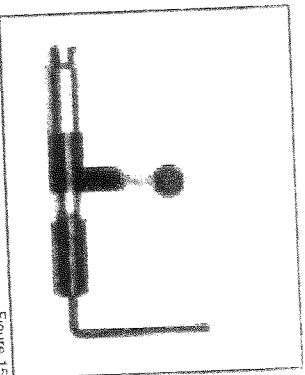

Figure 15
7. Place the bolt cap back over the spring. While pressing the spring downward, screw the bolt cap on to the bolt body. (See Figure 15)